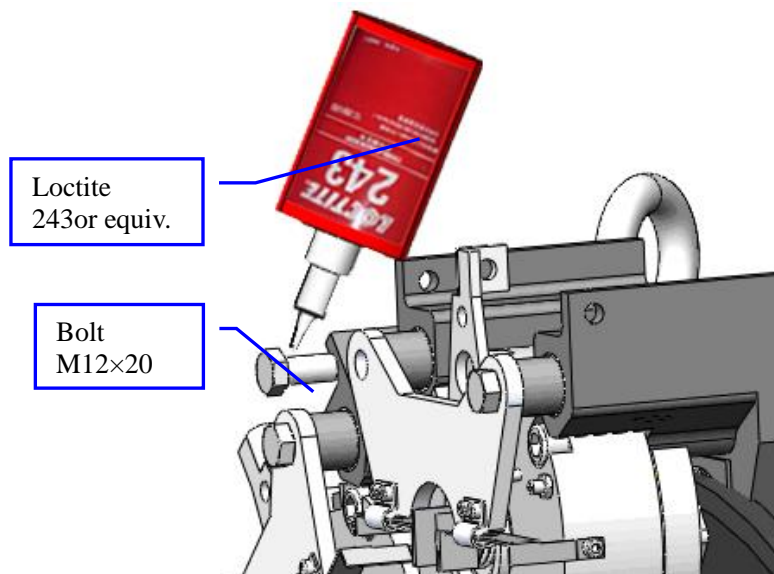

Figure 38: Apply Loctite 243 to M12x20 bolt
5. Apply Loctite on bolt M12x20 as the picture shows. Then tighten the bolt by open end wrench 18mm. See Figures 38 and 39.